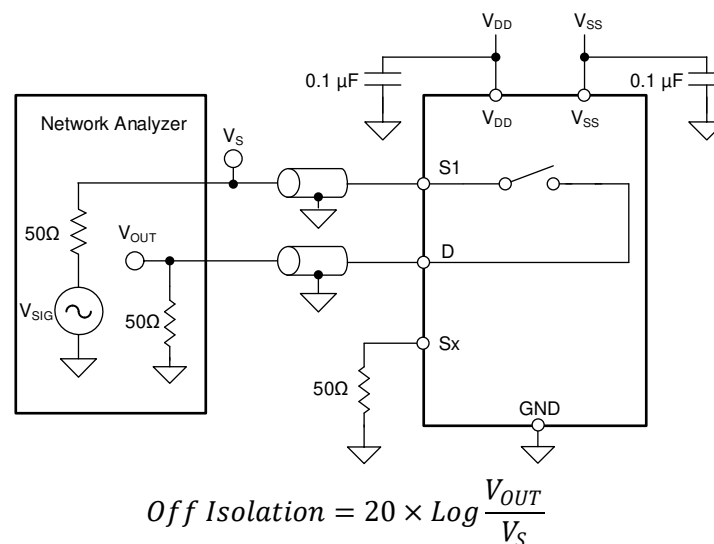

Figure 8-12. Off Isolation Measurement Setup
Off isolation is defined as the ratio of the signal at the drain pin (D) of the device when a signal is applied to the source pin (Sx) of an off-channel. Figure 8-12 shows the setup used to measure, and the equation used to calculate off isolation.